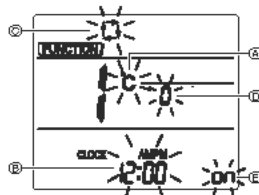

Fig. 3-2
- Press the **UP** button ④ to change the function No.
- Check that function No. "1" is displayed, and then press the **ENTER** button ③.
- The display setting screen will be displayed. (Fig. 3-2)
2) Changing the temperature unit ① [Factory setting: °C] (Fig. 3-2)
- Press the **TEMP** button ⑤.
- Each time the **TEMP** button ⑤ is pressed, the setting switches between **°C** and **°F**.
3) Changing the time display ⑦ [Factory setting: 12-hour format] (Fig. 3-2)
- Press the **TIME** button ⑥.
- Each time the **TIME** button ⑥ is pressed, the setting switches between **12:00** and **24:00**.
4) Changing the AUTO mode ⑧ [Factory setting: Single set point] (Fig. 3-2)
- Press the **MODE** button ⑦.
- Each time the **MODE** button ⑦ is pressed, the setting switches between **□** and **□**.
5) Changing the pair No. ⑨ [Factory setting: 0] (Fig. 3-2)
- Press the **PAIR** button ④.
- Each time the **PAIR** button ④ is pressed, the pair No. 0-3 changes.
6) Changing the backlight setting ⑺ [Factory setting: ON] (Fig. 3-2)
- Press the **ON/OFF** button ⑩.
- Each time the **ON/OFF** button ⑩ is pressed, the setting switches between **on** and **off**.
- Press the **ENTER** button ③.